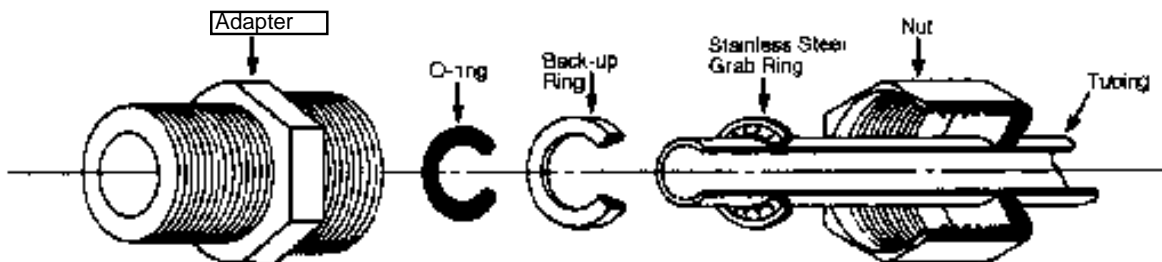
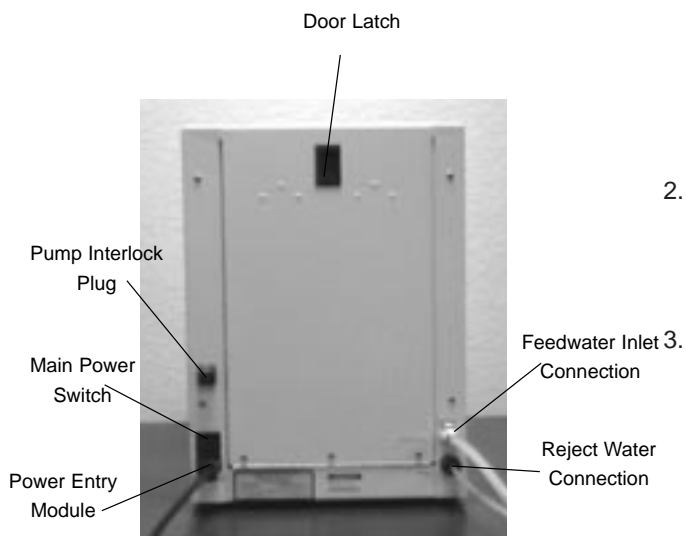

Figure 3 Typical Polypropylene Tubing Adapter Installation
Figure 8 EASYpure UV/UF Connections
1. Completely disassemble the fitting. Refer to Figure 3 to familiarize yourself with the names of the component parts.
3. Place the grab ring and back-up ring in the hex nut in the order and orientation shown in Figure 3. Thread the nut onto the adapter. **DO NOT** use the o-ring at this time.
1. Locate the reject water tubing. This is the piece of 1/4" O.D. tubing that has an adapter on one end and no connector on the other. Remove the nut, grab ring, backup ring and o-ring from the reject water fitting located at the lower right of the unit. (See Figure 3 for part identification and Figure 8 for fitting location.)